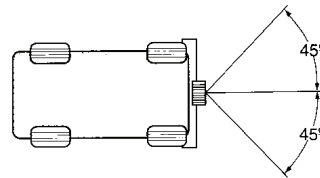

Figure 6
2. 45° angle left or right from straight ahead (See Figure 6). Caution: Exceeding the maximum line pull rating may overload winch, winch mount, and/or front mounted receiver.